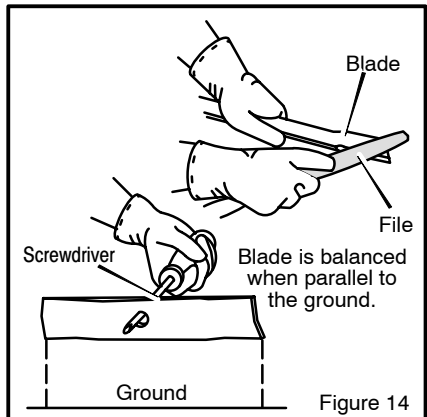

Figure 14
4. Sharpen the **blade** with a **file**. Make sure you keep the original beveled cutting edge (Figure 14).